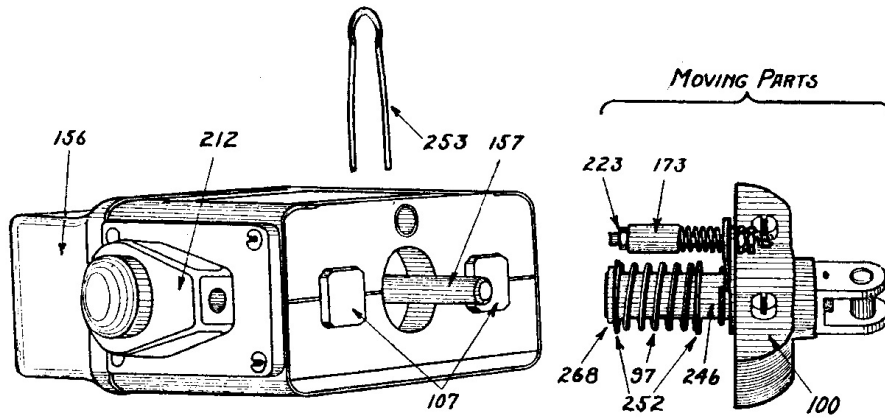
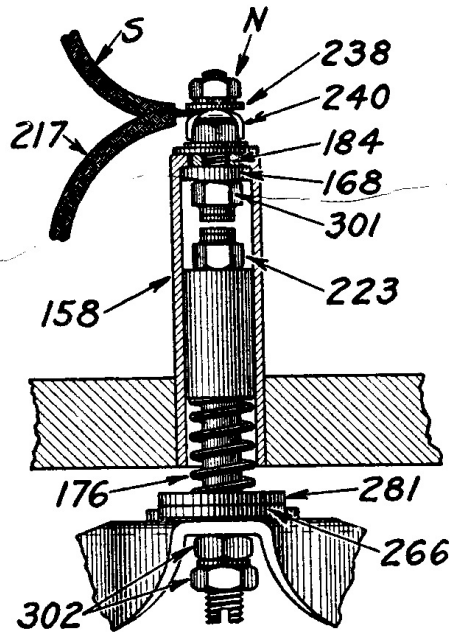

Figure 16
Figure 17
Figure 16 shows the stationary and moving parts of the Wico Magneto. Figure 17 shows the parts with numbers of the breaker point group.
(See Figure 17)
The breaker point contacts (301) and (223) should just touch when the armature (100) is 7-64" from the cores (107). To adjust, trip the armature from its contact with the cores, and insert a strip of metal 7-64" thick between the armature (100) and the face of the cores. Loosen the nuts (302) on the breaker point stem, (see Figure 17), and turn the upper nut until the contact (223) just touches the contact (301). Then set up the lower nut tight against the upper nut. As soon as adjustment has been made, be sure to remove the strip that you placed between armature and cores.
To replace the moving contact (223):—Withdraw the moving parts (see Figure 16), and remove the old contact and its spring (176) from the breaker point plate by unscrewing the two nuts (302). Substitute the new moving contact, being careful to replace the felt washers (266 and 281) as shown in Figure 17.
To replace fixed contact (301) :—Remove the front cover and the spring support (253) and withdraw the moving parts (see Figure 16). Disconnect condenser lead (S) and primary lead (217) from breaker point tube (158). Remove all nuts and washers from shank of the contact (301) and push contact down and out of tube. There are two insulating washers (168 and 184) inside of tube and these should be removed also.
Remove the front cover and use a small wire or piece of wood to remove any dirt from the surfaces of the contacts (301 and 223) and from the insulating washer (168). (See Figure 17). See that electrical connections are tight.